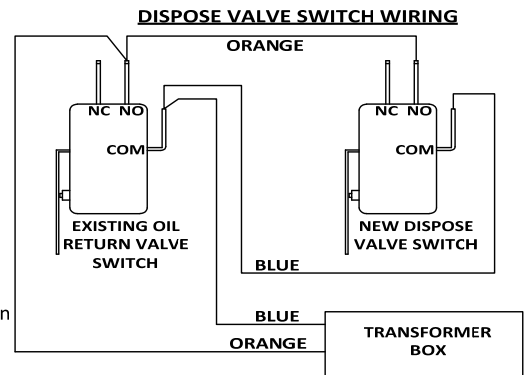

Figure 4
13. Unplug both wires from the far left oil return switch terminals as viewed from the front of the unit. **See figure 4.**
14. Using the provided harness plug both ¼” pigtail ends to the far left oil return switch terminals referenced in step 13 **See figure 4.**
15. Plug the wires removed in step 13 to the open terminals of the ¼” pig tail ends attached to the oil return switch in step 14. **See figure 4.**